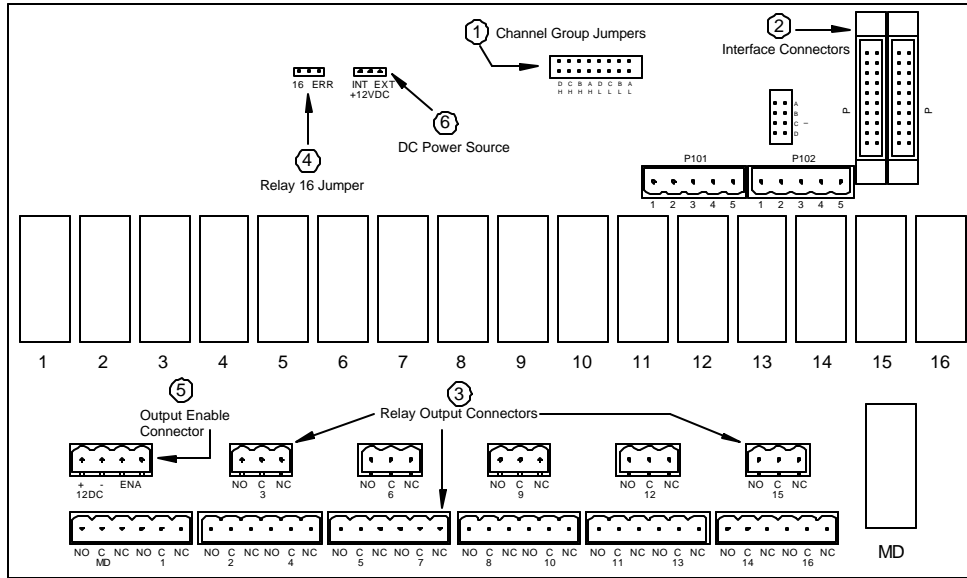

Figure 3.4.2 PLS-601 Electromechanical Relay Board
Figure 3.4.2 shows the layout of the electromechanical relay board.
The PLS-601 Control Unit provides sixty-four channel outputs that are divided into four groups of sixteen channels each. The channels are designated as A01-A16, B01 - B16, C01 - C16, and D01-D16. Up to four electromechanical relay boards, each with sixteen relays, can be attached to the PLS-601 Control Unit. However, only one electromechanical relay board can be directly driven from the PLS-601 Control Unit's power supply. If additional boards are required, an external power supply must be used (see DC Power Source for details). Each board must be assigned to one of four output groups designated as A, B, C, or D. This is done by installing the two channel group jumpers in the proper positions on the relay board (see Channel Group Jumpers in Figure 3.4.2). The relay board must be configured to match the PLS-601 output group that will drive it. Output Group A will drive relay output board A, Group B will drive relay output board B and so forth.
Each electromechanical relay output board contains two 20 pin male interface connectors labeled P101A and P101B (see Interface Connectors in Figure 3.4.2). The PLS-601 Control Unit will connect to P101A through the use of a twenty pin ribbon cable. To add additional electromechanical relay output boards, simply connect P101B of the first (or previous) relay output board to P101A of the next relay output board. Up to four electromechanical relay output boards can be connected to the PLS-601 Control Unit by this interface method.
(3) Relay Output Connectors - Electromechanical Relay Board
Each electromechanical relay board contains five 3 pin plug connectors and six 6 pin connectors that provides two output pins and a common for each of the sixteen channels (see Relay Output Connectors in Figure 3.4.2). These outputs are normally closed (NC) until activated by the PLS-601 Control Unit. The electromechanical relay output connectors are labeled (NO C NC) for each of the channels. In addition, 3 pins are available for the MOTION DETECT function. The MD function shares the first three pins of the channel 1 connector.
3.4 PLS-601 RELAY OUTPUT BOARDS - Electromechanical Relay Board Continued***(4) Relay 16 Jumper Options - Electromechanical Relay Board***
Electromechanical Relay 16 may be used as one of the standard channel output relays, or it may be used as an indication that an error has occurred in the PLS-601 Control Unit. To enable solid state relay 16 as a standard output, connect pins 1 and 2 together of J1 (see Relay 16 Jumper in Figure 3.4.2). To enable solid state relay 16 as an error indicator, connect pins 2 and 3 together of J1. When solid state Relay 16 is used as an error indicator, it will be active in non error conditions (ON) and non-active in an error condition (OFF).
(5) Output Enable - Electromechanical Relay Board
Each electromechanical relay board has a 2 pin input connector that implements an OUTPUT ENABLE function (see "Output Enable Connector in Figure 3.4.2). This connector is labeled ENA. The ENA pins must be shorted together in order for any of the seventeen electromechanical relay outputs to be enabled. If this connection is opened, all seventeen electromechanical relay outputs will be disabled.
The internal power supply of the PLS-601 Control Unit is capable of only driving one fully loaded electromechanical relay board. Additional boards must be driven from an external power supply. To use an external power supply, the jumper labeled INT EXT +12VDC must be placed between 2 and 3 (see DC Power Source in Figure 3.4.2). The external power supply voltage source must enter the board through the connector labeled (+ - 12DC). Make sure that the positive voltage of the external supply is attached to the connector pin labeled (+) and that the negative voltage (or ground) is attached to the connector pin labeled '- '.